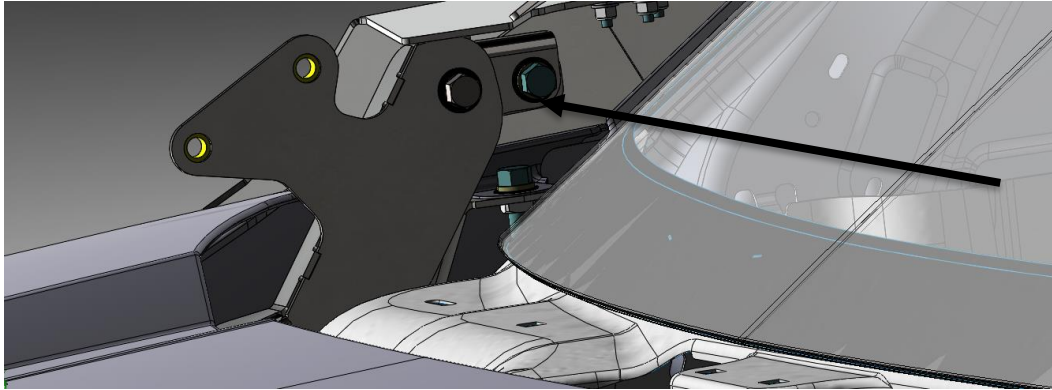

Fig 16
- a. With a friend on the other arm, lift the upper ViCowl assembly up over the hood and slowly lower the arms into position. The arm mounting bracket rest to the outside of the lower hinge and lined up with the rear bolt hole as shown in **Fig 16**.